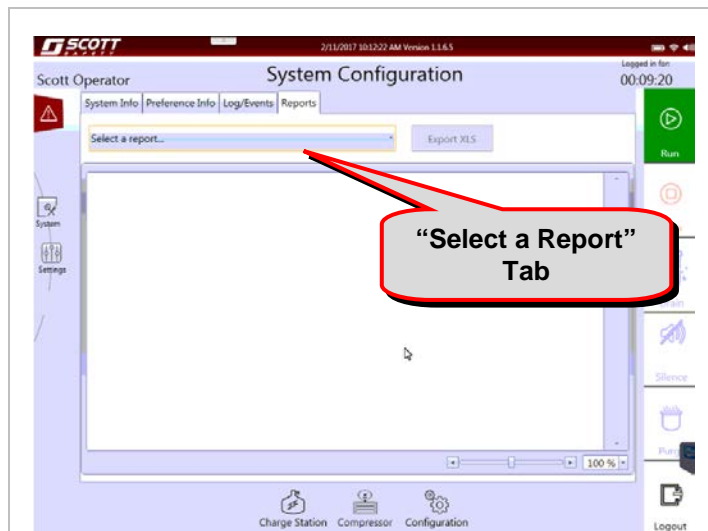

Figure 4.1-7: Reports Tab
See Figure 4.1-7.
8. Touch the “Select a Report” tab to select the type of report to run. Currently the “Cylinder Log Report” is the only report available. See Figure 4.1-7.